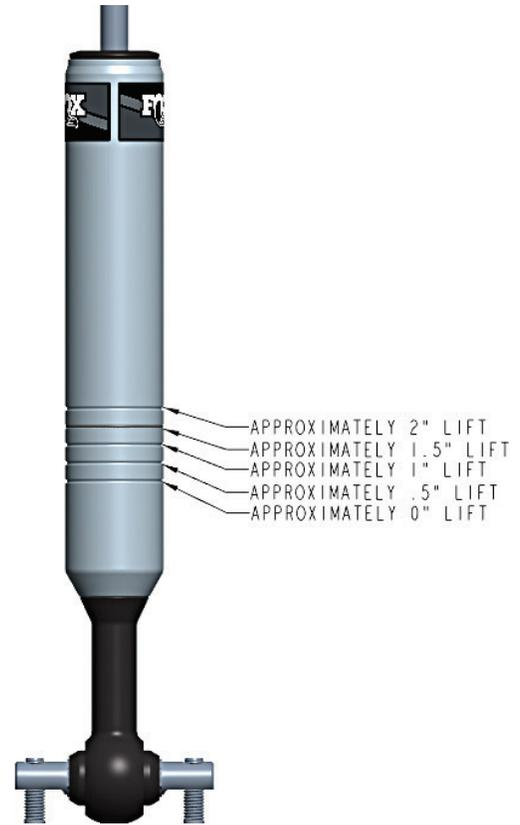

Figure 7: Illustration of groove/lift height options
- 5a. Select snap ring groove based on desired lift height (Figure 7).